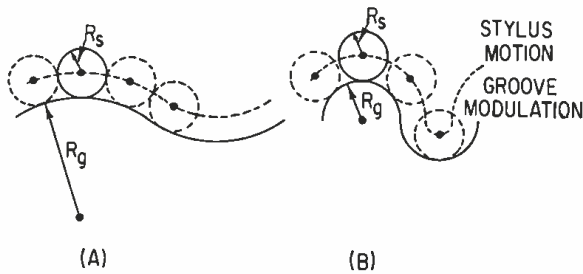

Figure 6. The effect of modulation level on tracing distortion. (A) low-level modulation and (B) high-level modulation.
**Modulation amplitude:** Tracing distortion is directly proportional to the modulation amplitude. As the modulation amplitude increases, the modulation radius decreases, see FIGURES 6(A) and 6(B), which makes the playback tip radius appear larger by comparison and thereby increasing distortion. FIGURE 6(B) shows a modulated groove which is the same as in FIGURE 6(A), but with a larger modulation amplitude. The
playback distortion from the groove in FIGURE 6(B) is greater than that from FIGURE 6(A). Tracing distortion is therefore greater at higher recorded levels.